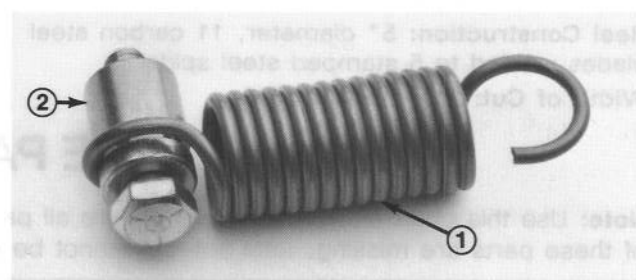

Figure 4
3. Hook spring onto spring retainer (Fig. 4). End of spring to be positioned in groove on spring retainer.